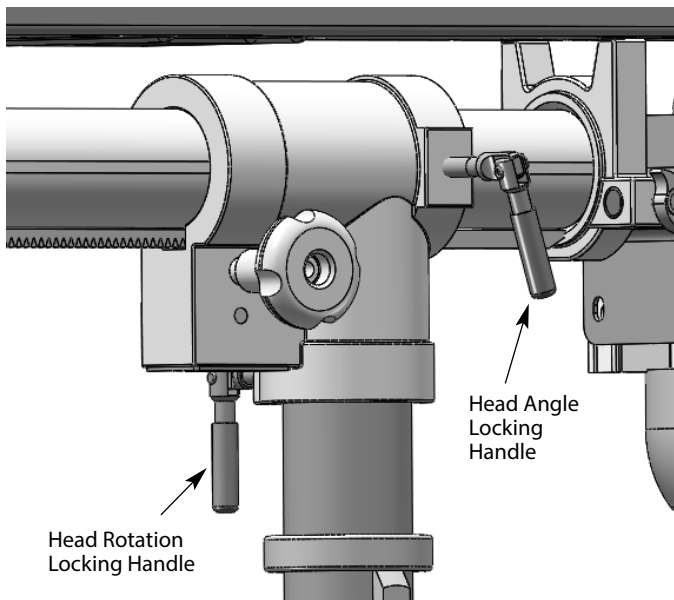

Figure 10 - Secure head assembly.
- Secure head assembly into position by tightening the locking handles. See Figure 10.